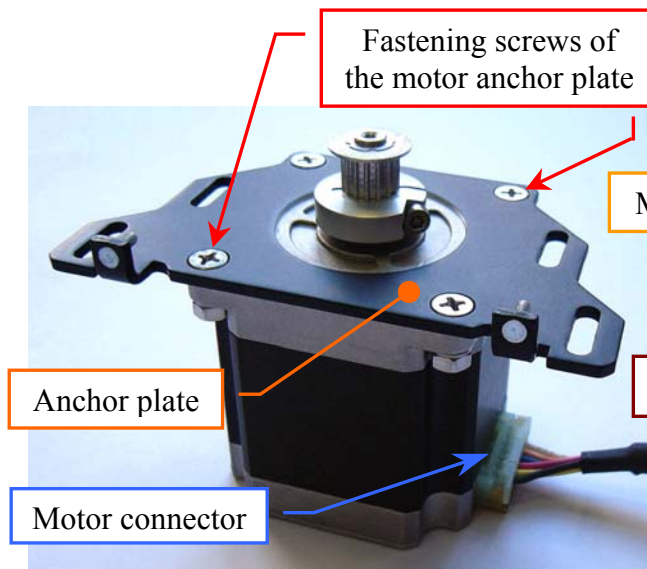

Fig. 99 – Samples Plate Motor anchor plate
9. Position the anchor plate on the upper plane of the new motor as showed in **Fig. 99** and screw its four fastening screws.